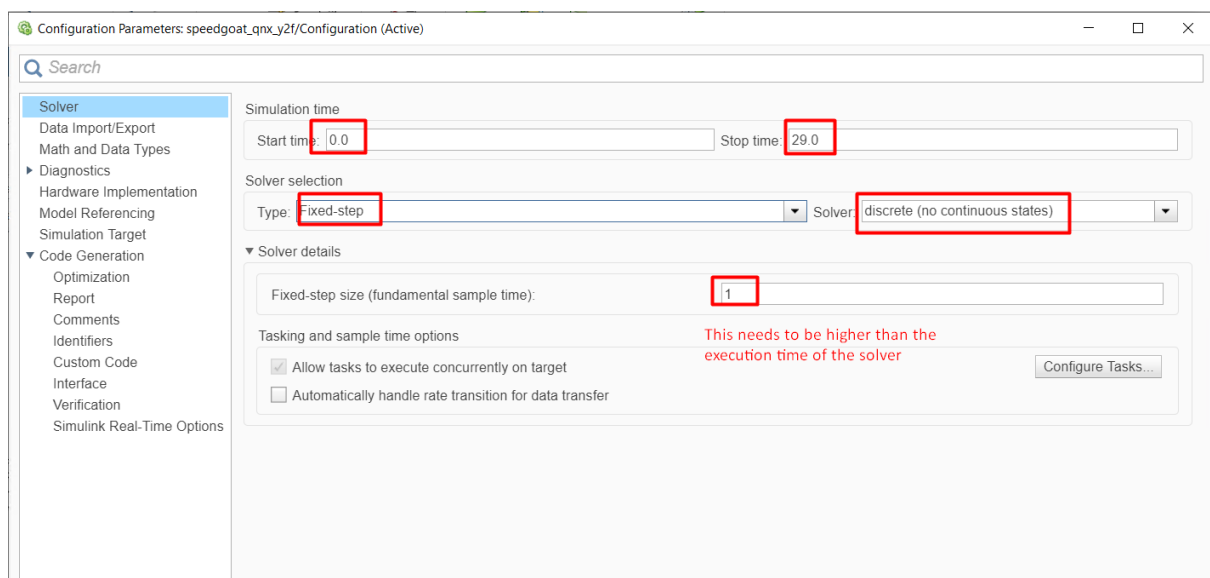

Figure 13.108: Set the Simulink solver options.
7. (Figure 13.108) In the “Solver” tab, set the options: